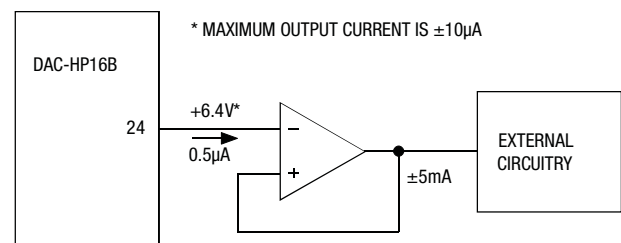

Figure 2. Use of Reference Output
3. If the reference output (pin 24) is used, it must be buffered by an operational amplifier in the noninverting mode. See Figure 2. Current drawn from pin 24 should be limited to ±10mA in order that the temperature coefficient of the reference circuit not be affected. This is sufficient current for the bias current requirements of most popular operational amplifier types.